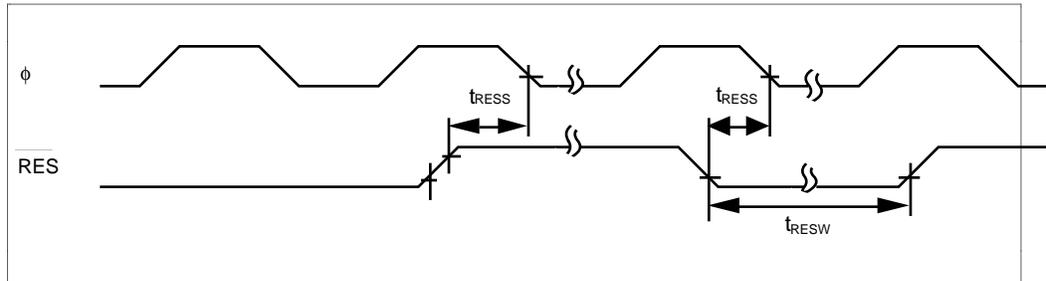

Figure 17-6 Reset Input Timing
- 17.3.2 Control Signal Timing Figures 17-6 to 17-9